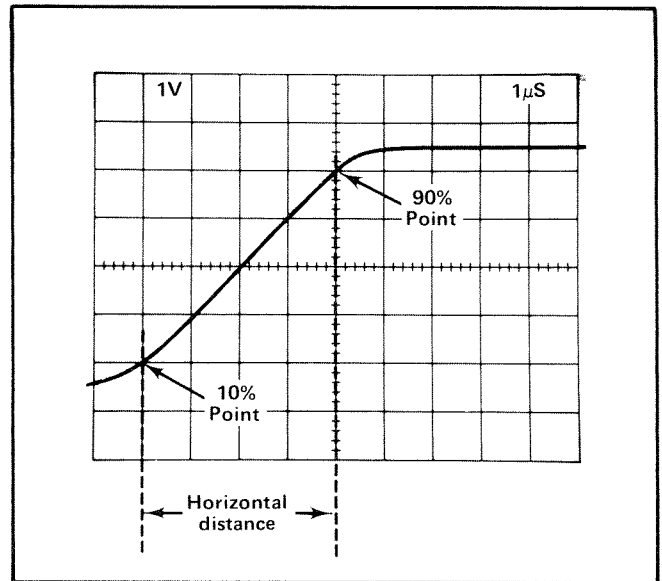

Fig. 2-12. Measuring risetime.
8. Adjust the horizontal POSITION control to move the 10% point of the waveform to the second vertical line of the graticule. For example, with a five-division display as shown in Fig. 2-12, the 10% point is 0.5 division up from the start of the rising portion.
**Example.** Assume that the horizontal distance between the 10% and 90% points is four divisions (see Fig. 2-12) and the TIME/DIV OR DL'Y TIME switch is set to  $1\mu\text{s}$ . Applying the time duration formula to risetime: